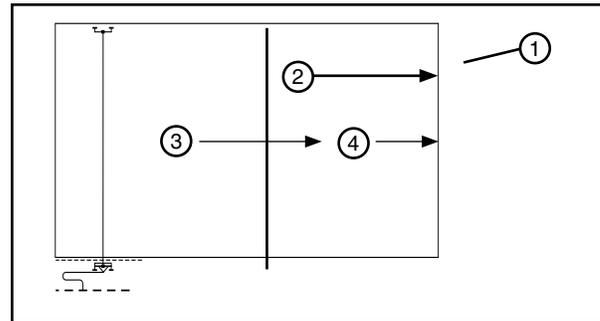

Figure 39-1 1. Field 2. Direction of Travel 3. Wet Deep 4. Wet Shallow
3. The percentage timer is set at the desired application rate, the system is started at one end of the field, and run wet (irrigating) to the middle of the field. See Figure 39-1.
4. At the middle of the field the percentage timer is set to 100% and the system continues to run wet to the other end of the field. See Figure 39-1.